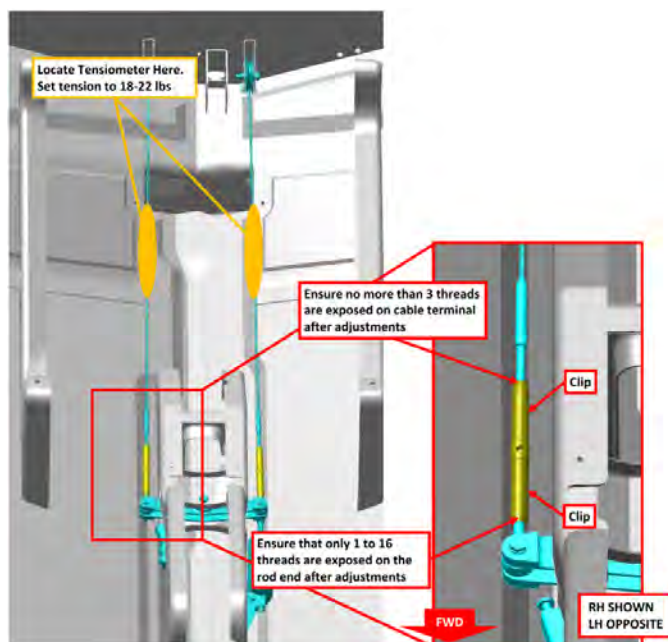

FIGURE 10-58
13. Use a tensiometer to rig both AFT Yaw Control Cables (cable thickness = 1/8 in). Refer to the tensiometer manufacturers' calibration card to correctly read cable tension for the cable diameter measured. To achieve the following, refer to Figure 10-58: